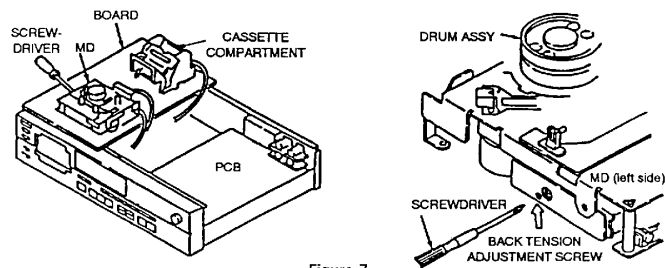

Figure 7
1. Remove the mechanical deck and the cassette compartment from the unit and separate the two assemblies. Place the two assemblies on a board without disconnecting any electrical connections (see Figure 7).